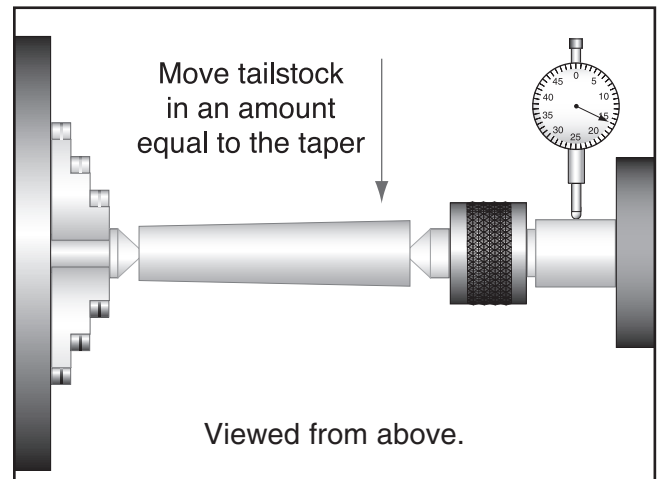

Figure 37. Adjusting for headstock end taper.
Before making adjustments to the tailstock, mount a dial indicator so that the dial's plunger is on the tailstock barrel. See **Figure 37**.
6. Measure the stock with a micrometer. If the stock is fat at the tailstock end, the tailstock needs to be moved toward you the amount of the taper. See **Figure 37**.